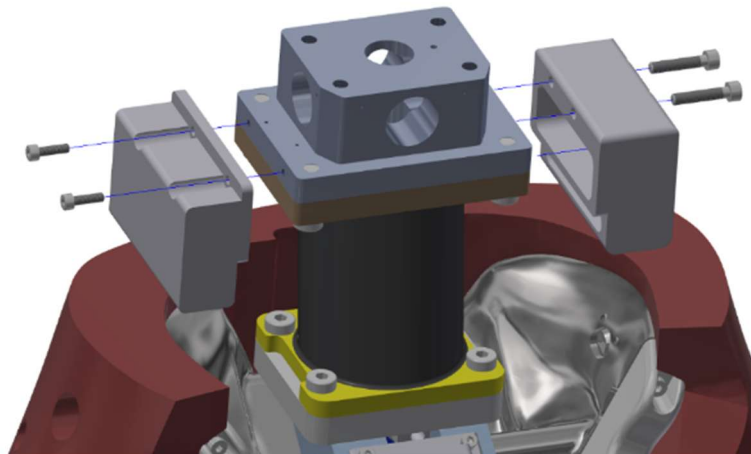

Figure 6-35. Attach the Right Lower Spine Ballast (474-3002-2) to the Thoracic Spine Load Cell (SA572-S107)
- 6.3.5 Attach the Left Lower Spine Ballast (474-3002-1) to the left side of the Thoracic Spine Load Cell (SA572-S107) using two M5 X 0.8 X 25 LG. SHCS and attach the Right Lower Spine Ballast (474-3002-2) to the right side of the Thoracic Spine Load Cell (SA572-S107) using two M4 X 0.7 X 14 LG (Figure 6-35).